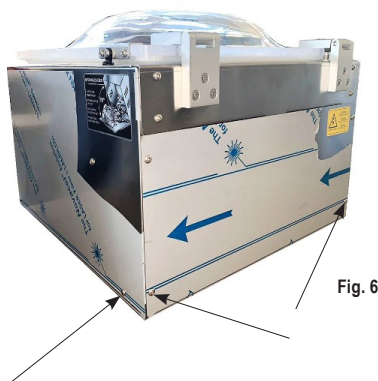

Fig. 6
- Access the inside of the machine by unscrewing the 2 rear and 2 side screws of the casing and rotating the latter 90° (Fig. 6).